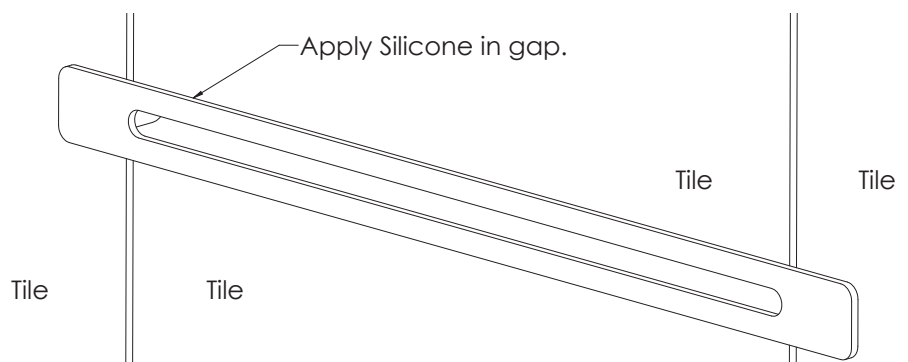

Figure 13
- Fill any gaps between tiles and Escutcheon with silicone. (see fig. 13).